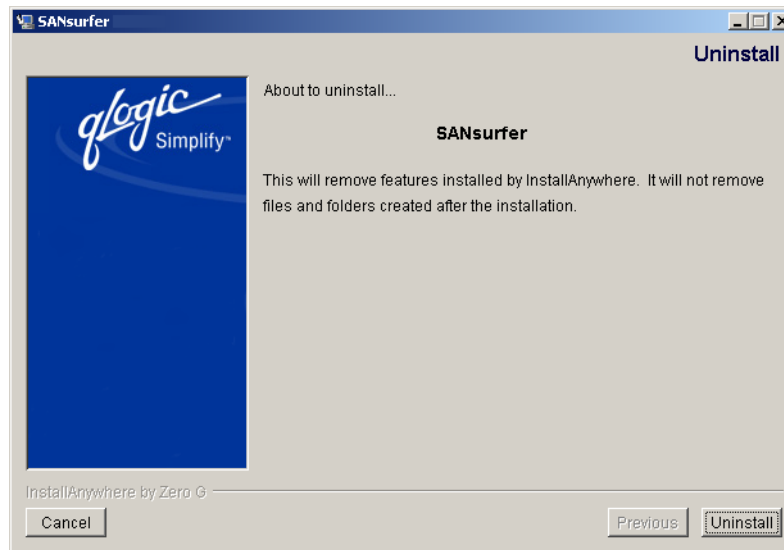

Figure 5-13. Uninstall SANsurfer—About to Uninstall Dialog Box
2. The **Uninstall SANsurfer—About to Uninstall** dialog box displays with SANsurfer Vx.x.xx as the program to be uninstalled (see figure 5-13). Click **Uninstall**.